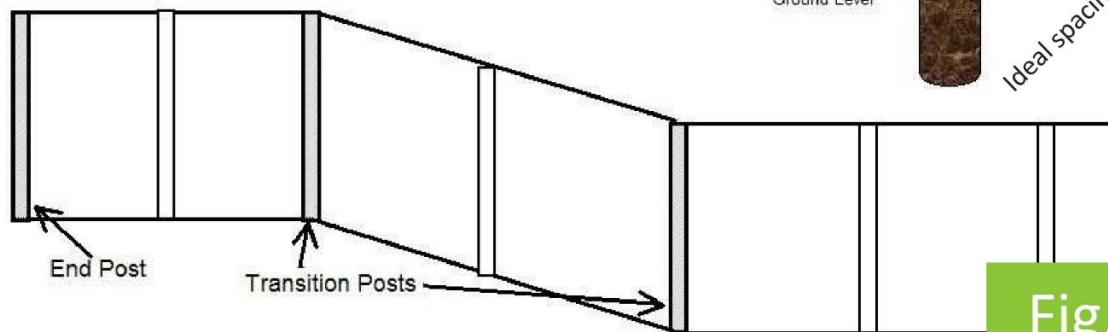

Fig. 4
***Note:** If setting posts to height, begin by setting all end, corner and transition (post where grade changes) posts first. Posts should be 74 1/2" inches high**. String a line from the top of these posts, then set the remainder of the posts to the height of the string. (see Fig. 4).